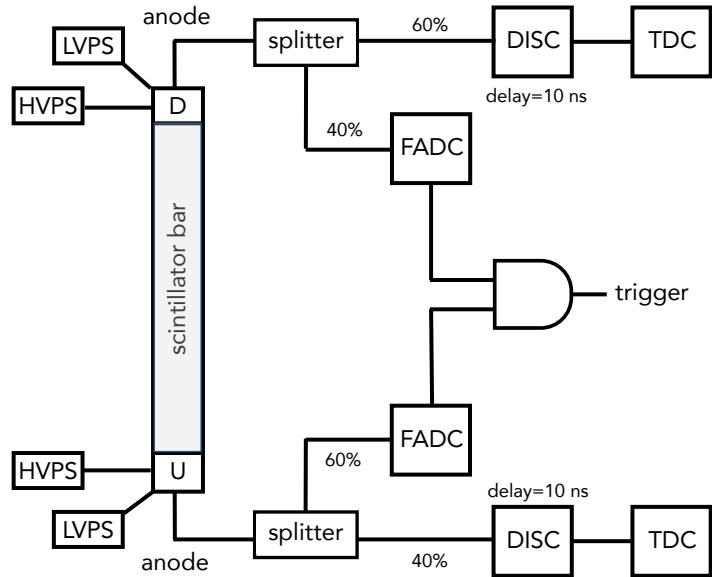

Figure 5: Block diagram for the CTOF system showing the layout of the readout electronics and power connections for a single counter.
A block diagram of the readout electronics and power connections for one representative counter of the CTOF system is shown in Fig. 5. The PMT anode outputs are connected to one of two UVa 60-40 splitter boxes. The 60% output goes to an Ortec 935 NIM CFD and then to a CAEN 1290A 25 ps LSB VME TDC. The 40% output goes to a JLab 250 MHz VME flash ADC. The high voltage (HV) power supply for the CTOF counters is a CAEN SY4527 mainframe outfitted with four negative polarity 24-channel A1535N modules that is shared with the HTCC system and several beamline devices. The CTOF HV modules occupy slots #0 to #3 in the mainframe. Figure 6 shows the locations of the CTOF electronics and power supplies in the electronics racks on the beam left side of Space Frame Level 1 (the target level). Note that the CTOF magnetic shields include compensation coils powered through a dedicated low voltage power supply (LVPS). However, the coils are not used in nominal beam operations for CLAS12.